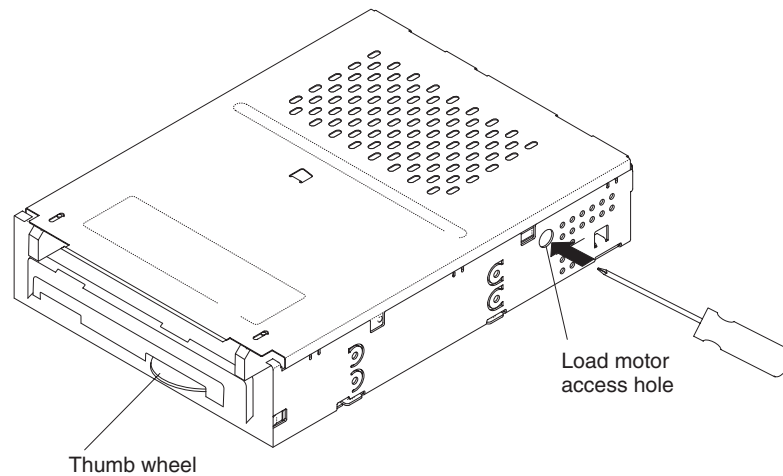

Figure 28. Turning the load motor to release the cartridge
4. Gently rotate the thumb wheel (see Figure 28 on page 53) counterclockwise to remove slack from the tape by winding the media onto the take-up reel.
5. Insert a Phillips head screwdriver in the load motor access hole (see Figure 28 on page 53). Rotate the load motor clockwise to unwind the tape path. Unwind the mechanism until tape slack appears.